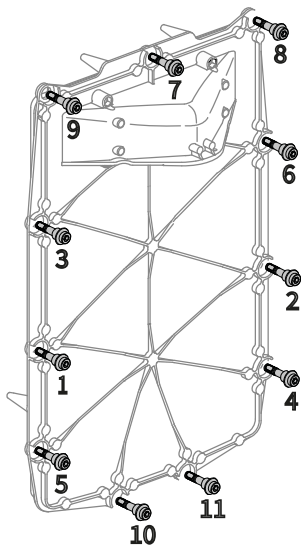

Figure 52: Tighten Allen bolts in cross pattern direction.
2. Place the heat exchanger cover onto the heat exchanger and loosely install the 6mm Allen bolts removed in step 7. Tighten the 6mm Allen bolts in a cross pattern as shown in the Figure 52.